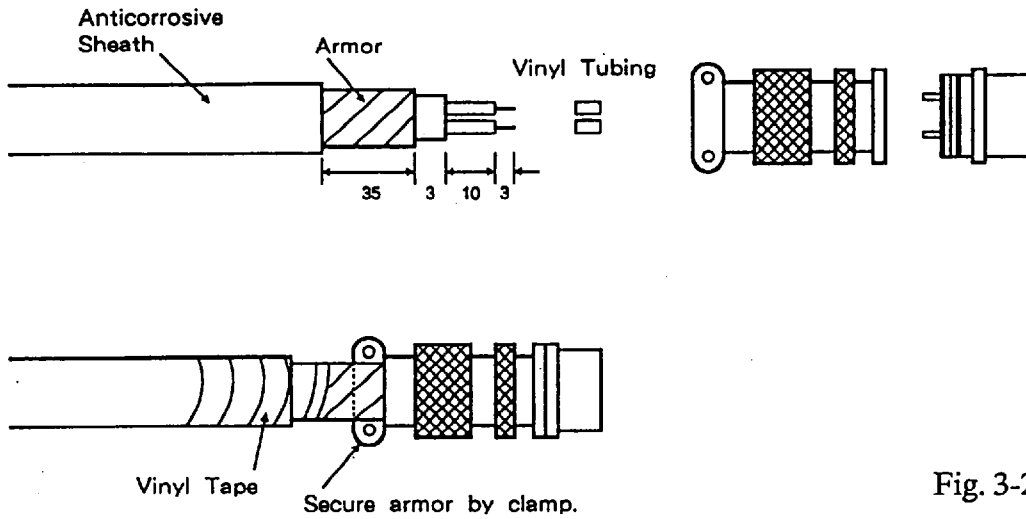

Fig. 3-2
- In case of DPYC-2.0, the cable fabrication is same as figure 3-2.